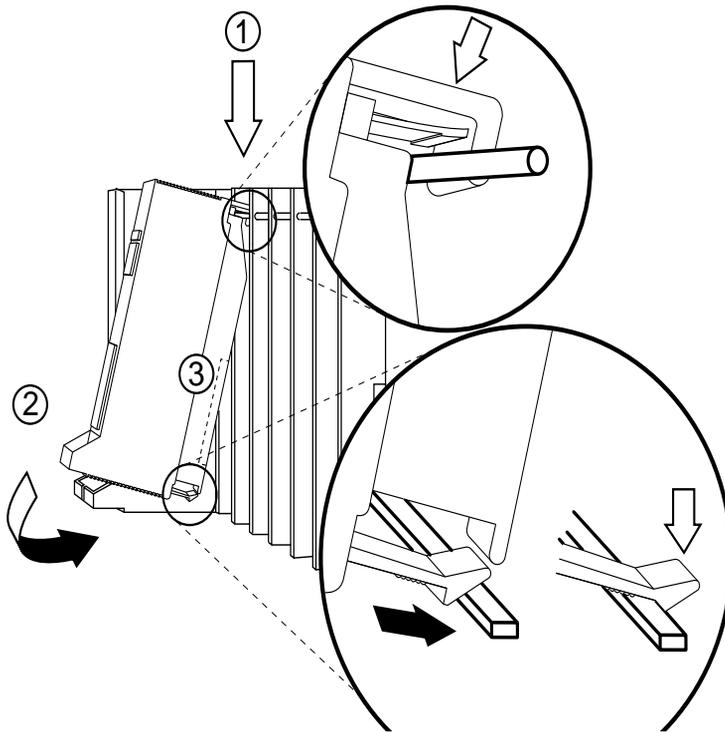

Figure 9-4. Replacing a Module in the Carrier
- ▶ **4. Reinstall the power supply module by hooking it onto the rod at the top of the carrier and then swinging it down into place. See Figure 9-4.**